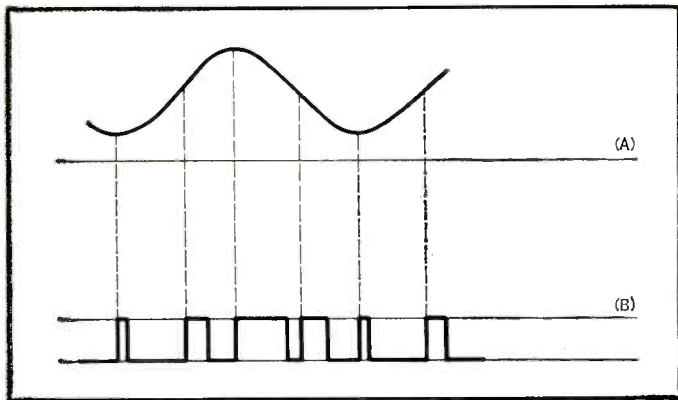

Fig. 4. Method of converting a sine wave to pulse-length modulation.
We are only concerned with the least interesting form of pulse modulation, pulse-length modulation. Interest is a subjective value, of course, but I think any engineer will recognize the sort of scale of interest which ranges upwards in complexity and then shows sharp leaps as sophistication produces simplicity. In my rating Wagner stands higher than Weber, but Mozart stands way out above Wagner. Pulse-length modulation is the direct way of coding a signal into pulses and is very easily explained. We take the waveform shown at (A) in Fig. 4 and we sample it at regular intervals. This is just the procedure we follow when we draw a graph from tables: we might put in points every 15 deg. or even every 30
deg., to draw ourselves a fine wave. Having measured the size of the wave at each sampling point we generate a pulse which has a duration proportional to the size of the wave at the sample point and which has a constant amplitude. This is the waveform shown at (B) in Fig. 4.